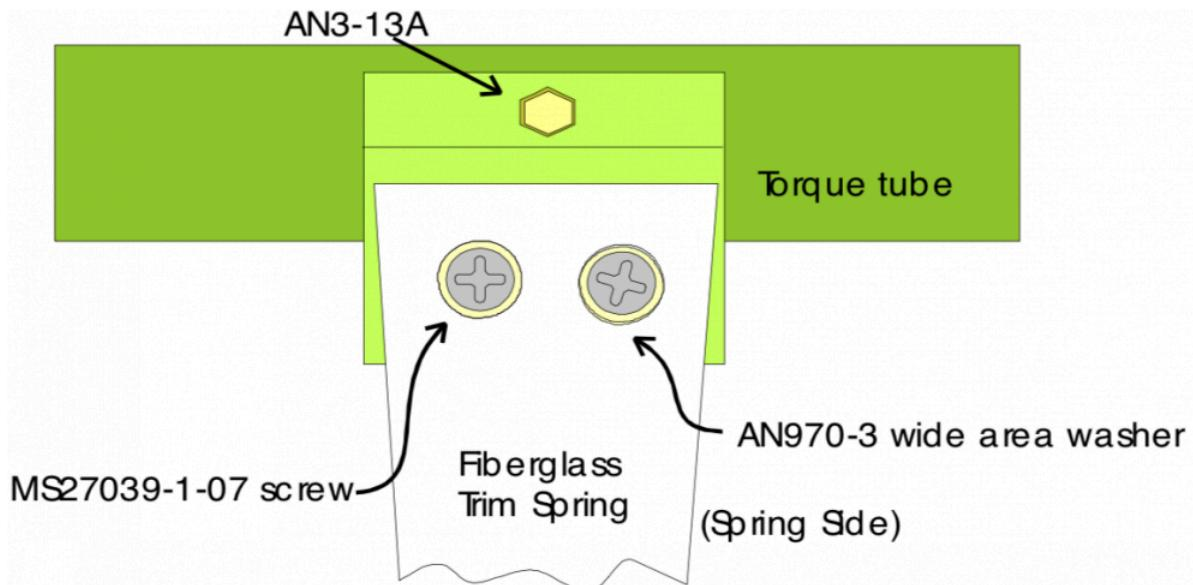

Figure 10-3. Elevator Trim Spring to Torque Tube Attachment
Snap the spring bracket onto the torque tube. Position the trim spring about 1/4" below the top of the canard cover and cut off the trim spring just above the little bend in the bracket. Remove this assembly and bolt the spring to the bracket using (2) MS27039-1-07 screws, AN970-3 washers on the spring side, and MS21042-3 locknuts. See Figure 10-3.
Rotate the elevator trailing edge up so it is 1-1/2" above the neutral position. You will have to cut a slot in the trailing edge of the canard to allow full travel of the trim spring. With the elevator held in this position clamp the spring bracket to the offset concentric torque tube. Now drill a hole through the spring bracket in order to attach it. It would be best to do this with a partner that can make sure you are drilling straight. Center punch for a hole centered in the bracket. Refer to figure 10-3. It would be best to drill a 11/64" hole and ream it to 3/16" but if you do not have that drill a 3/16" hole. Have your partner make sure you stay perpendicular to the top of the tube. Drill all the way through. In stall an AN3-13A bolt and AN960-10L washer and MS21042-3 lock nut to hold the bracket in place.